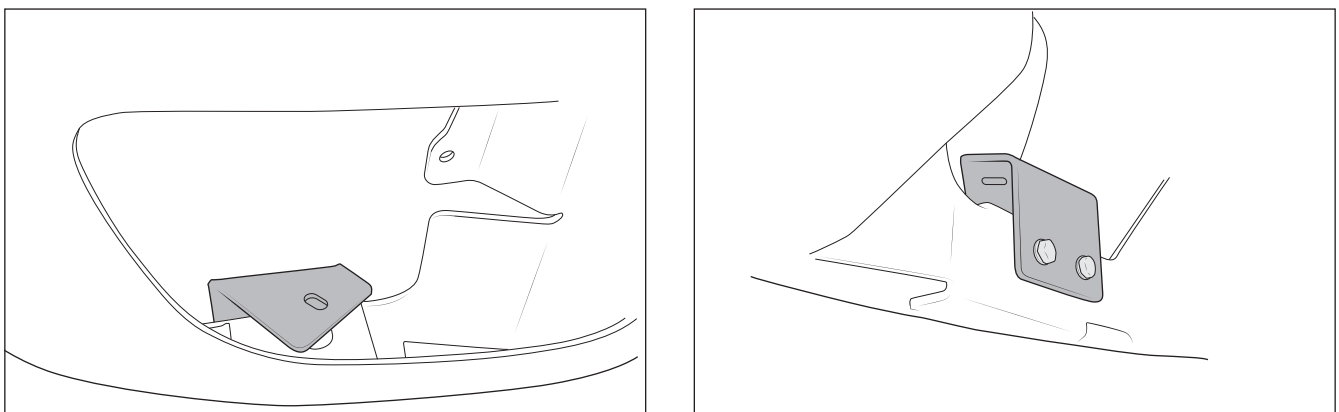

Figure 40
1. Install AEV light brackets to bumper corners with supplied hardware (fig. 40).